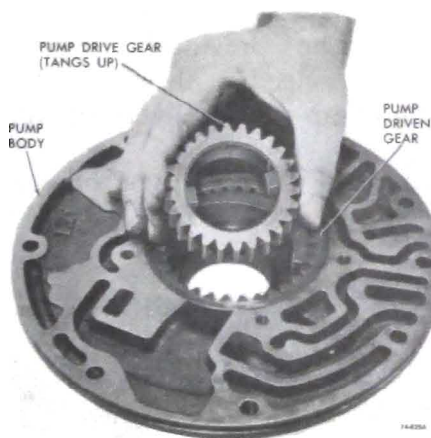

Figure 76-626
11. Mark drive and driven gears for reassembly in same position and remove drive gear. See Figure 76-626.